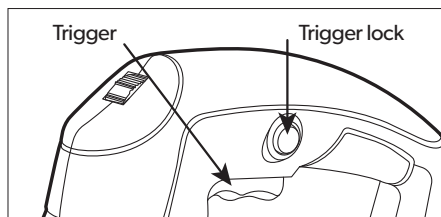

Figure 4
3. Squeeze the Trigger (17) to turn on the jigsaw. If operating the jigsaw for an extended period of time, press the Trigger Lock to lock the Trigger in its "ON" position. See Figure 4, right.